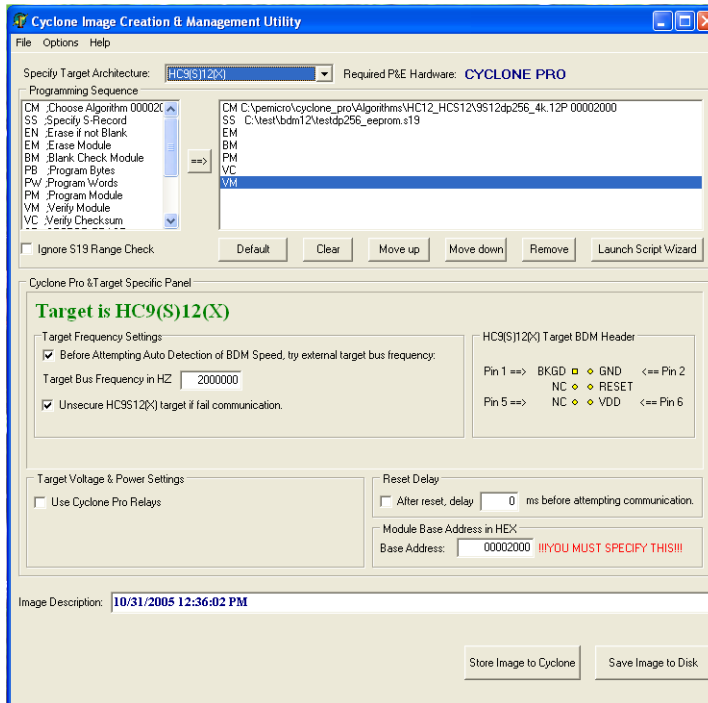

Figure 3-4: HC9(S)12(X) Class Settings
Figure 3-4 shows the HC9(S)12(X) specification configuration.